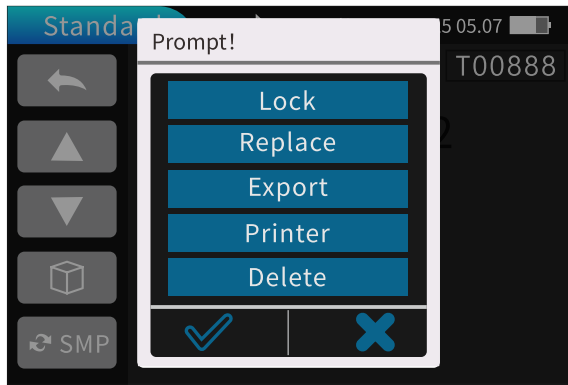

Figure 67 Printer Operation Prompt
2. Tap the operation icon “” and select "Printer" from the pop-up menu (Figure 67).